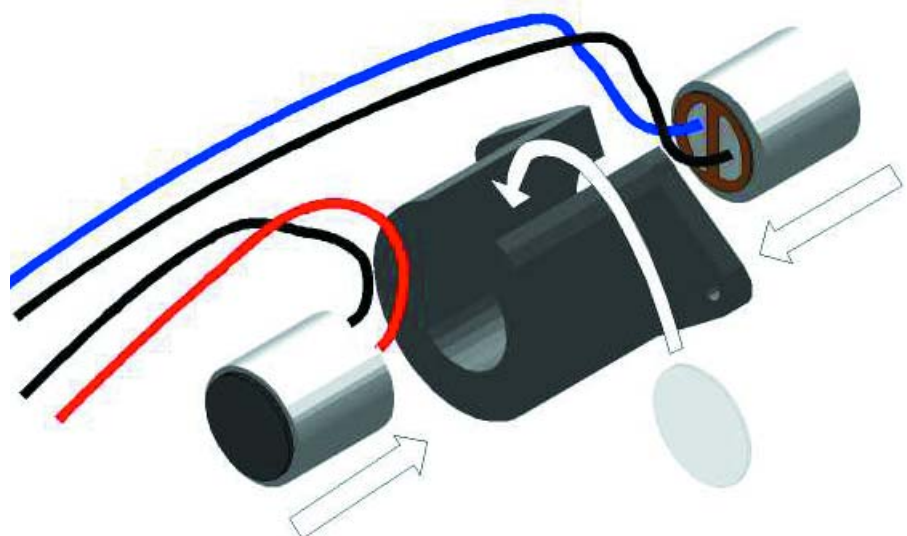

Figure 2. The two microphone capsules, fitted opposite one another in a rubber tube.
**Figure 2** shows the construction of the microphone. The microphone capsules are fitted into a rubber tube (which came with the capsules), cut lengthways with a craft knife. A small plastic disc, cut out using an office hole punch, serves to isolate the electrical connections from one another. The front surfaces of the microphone capsules are at a distance of about 15 mm from one another, which gives a cutoff frequency of 11 kHz for the directional characteristic. Above 11 kHz the microphone is also sensitive to feedback, and so it makes sense to turn down the treble control on the amplifier.